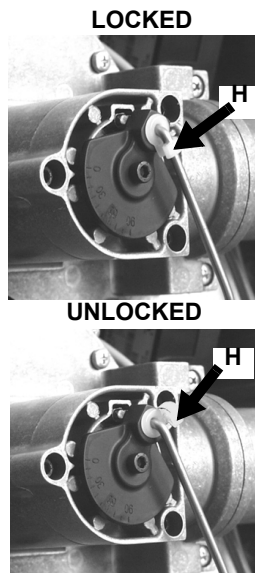

Fig. 45
- 2 Slacken the butterfly valve adjusting rod (Fig. 45) and take it out pulling outside.